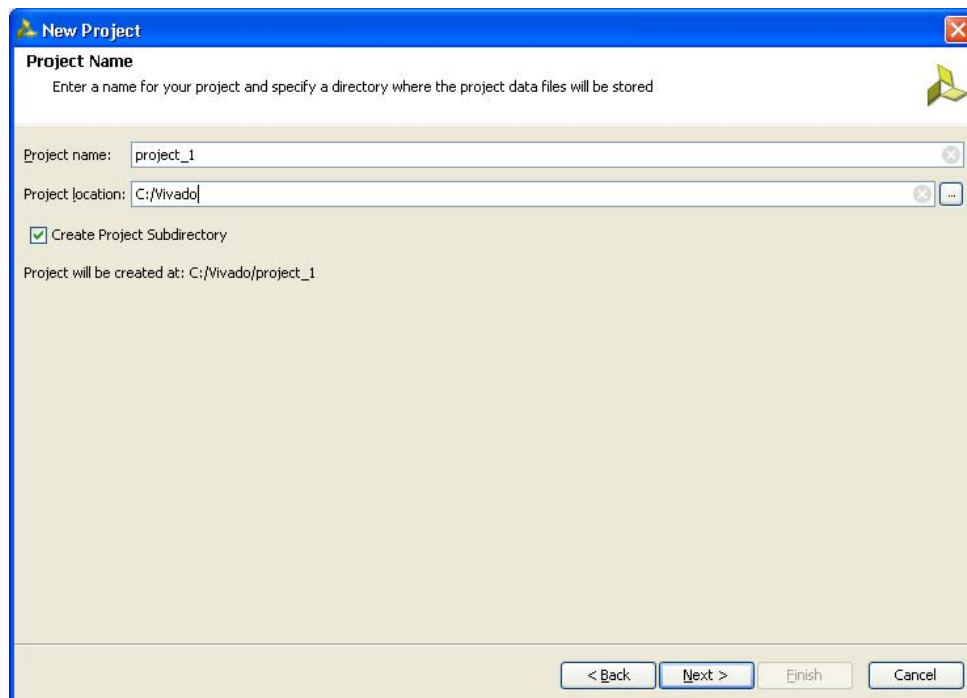

Figure 2-3: Project Name
3. Click **Next** to proceed to the **Project Name** page (Figure 2-3). Enter the **Project Name** and **Project Location**. Based on the details provided, the project is saved in the directory.